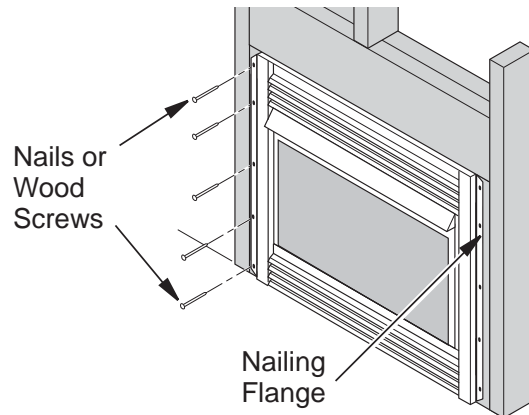

Figure 15 - Attaching Fireplace to Wall Studs
6. Attach fireplace to wall studs using nails or wood screws through holes in nailing flange (see **Figure 15**).